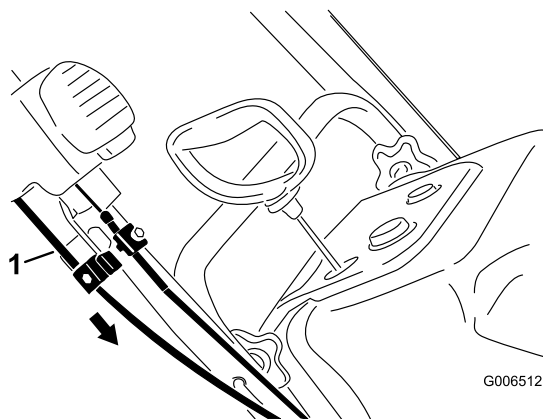

Figure 43
4. Hold the discharge chute in the straight-ahead position, pull the lower cable casing downward until you remove the slack in the cable, and tighten the screw on the lower cable clamp securely (Figure 43).